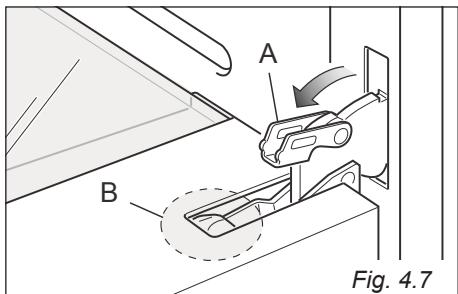
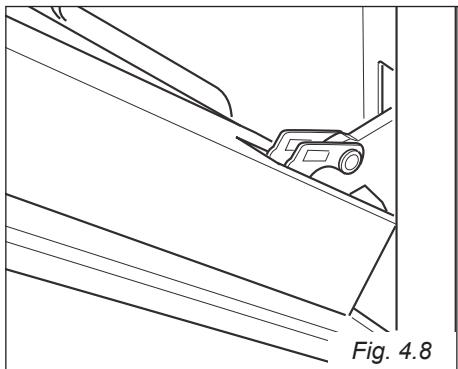

Fig. 4.7
Fig. 4.8
- Open the lever "A" completely on the left and right hinges (fig. 4.7).
- Gently close the door (fig. 4.8) until left and right hinge levers "A" are hooked to part "B" of the door (fig. 4.7).